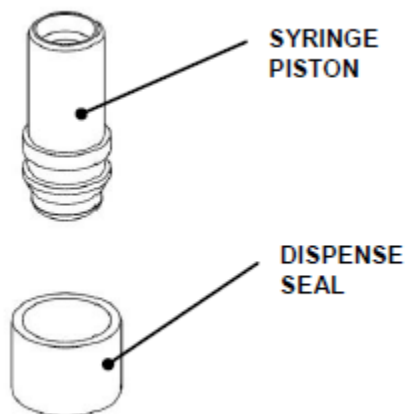

Figure U-21: Inserting a Syringe Piston into the Dispense Seal
1. Press a SP Syringe Piston into the Dispense Seal to form the Dispense Piston Assembly using the fixture PMFIX020 and the PanaVise RJ14 manual mini presser (Figure U-21).